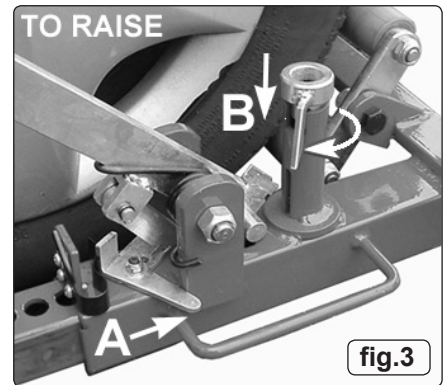

fig.3
4.4.1. Now engage the ratchet by turning the ratchet lever as far as it will go to the right. See fig.3 - A.(TO RAISE)
4.4.2. Engage the locking pin by turning the tab clockwise until it drops into the slot. Once in the slot the tab should be turned away from the pedal lever. See fig.3 - B.(TO RAISE)